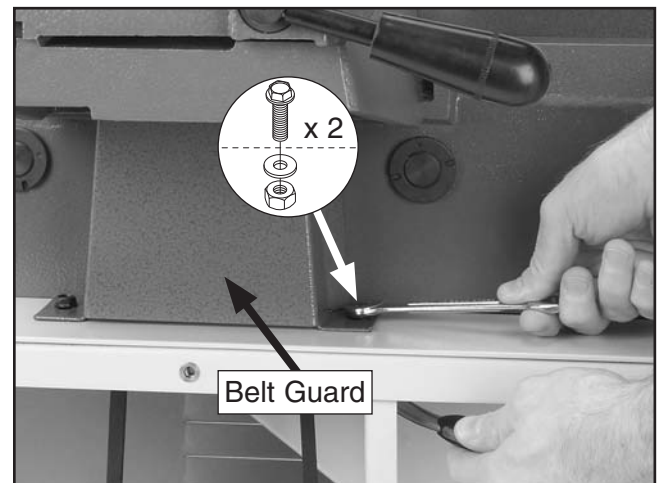

Figure 23. Installing the belt guard.
25. Use the (2) M6-1 x 10 flange bolts, 8mm flat washers, and M6-1 hex nuts to install the belt guard underneath the fence carriage, as shown in **Figure 23**.